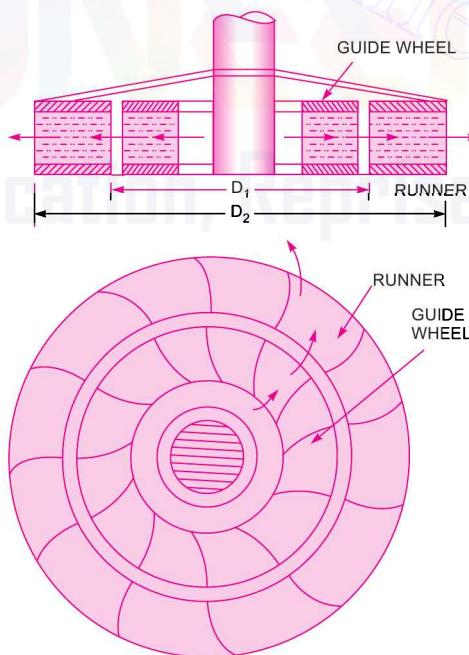

Fig. 18.18 Outward radial flow turbine.
**18.7.5 Outward Radial Flow Reaction Turbine.** Fig. 18.18 shows outward radial flow reaction turbine in which the water from casing enters the stationary guide wheel. The guide wheel consists of guide vanes which direct the water to the runner.